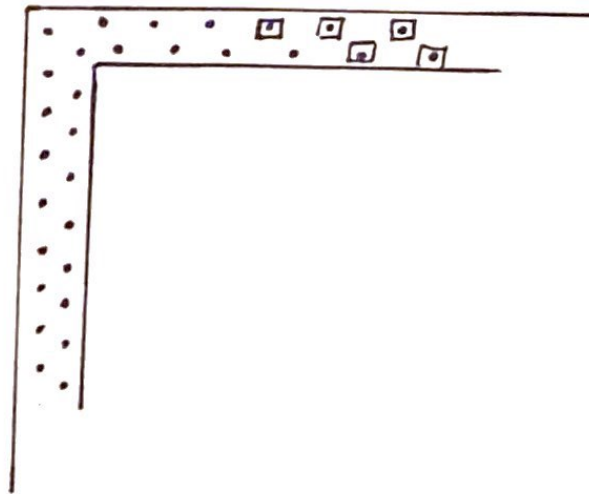

Fig. 4
5) The space between each nail should be approximately $\frac{1}{2}$ inch. The nails should be staggered. (see fig. 4).
To use dowels or cords the same method should be used. Nails or staples should be $\frac{1}{2}$ an inch apart and in double rows, and staggered for maximum strength. A linen tape or cardboard strips under the nails makes it easier to pry the nails loose, and helps to prevent tearing of fabric. (see fig.4)